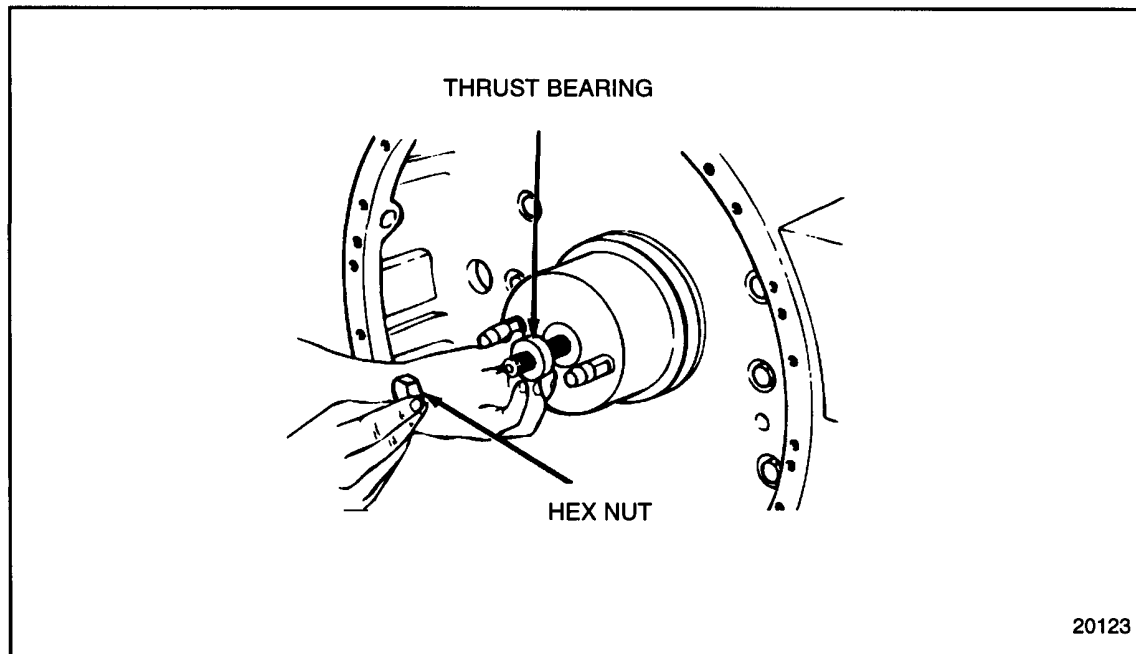

Figure 1-135 Thrust Bearing Installation
4. Install the thrust bearing tool with the case side toward the installer housing. Install the hex nut to the center screw of the base. See Figure 1-135.